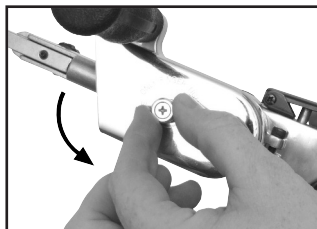

Fig. 3
2. Remove the drive wheel cover (See fig. 3).